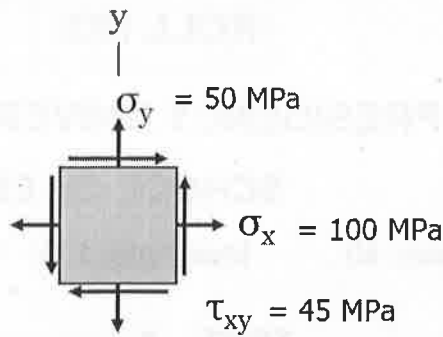

Fig.2
4. A machine element is subjected to bi-axial stress shear stress as shown in Fig.2. Determine the maximum shear stresses.